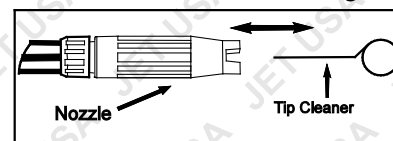

Figure 5- Insert tip cleaner in nozzle hole and move back and forth until debris is dislodged
5. Using included tip cleaner, or an unfolded paper clip, insert wire into the nozzle hole and move back and forth until debris is dislodged. (See Figure 5.)